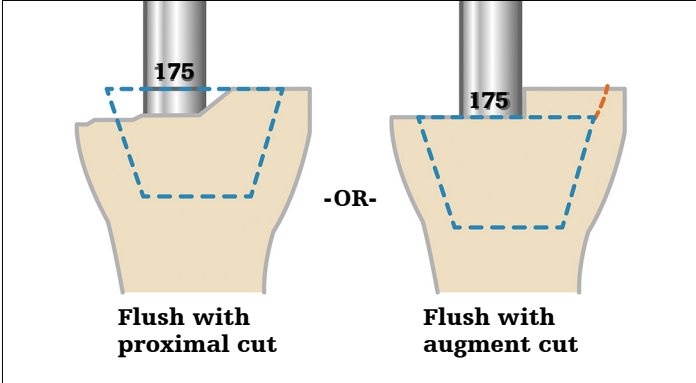

Figure 48
► **Note:** If Tibial Augments are to be used, ream until the 175mm marking is flush with the augment cut. Use the bottom of the 175mm line marking as the depth reference (Figure 48).